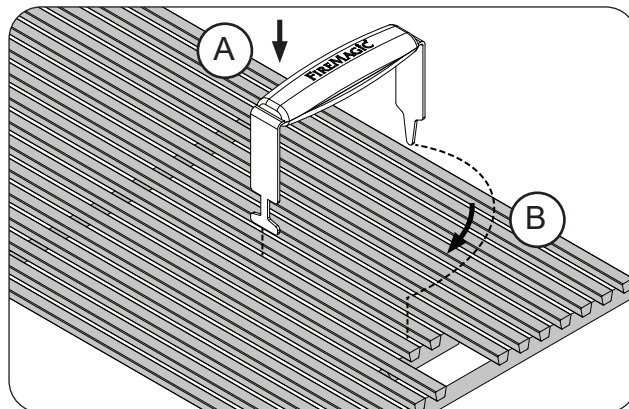
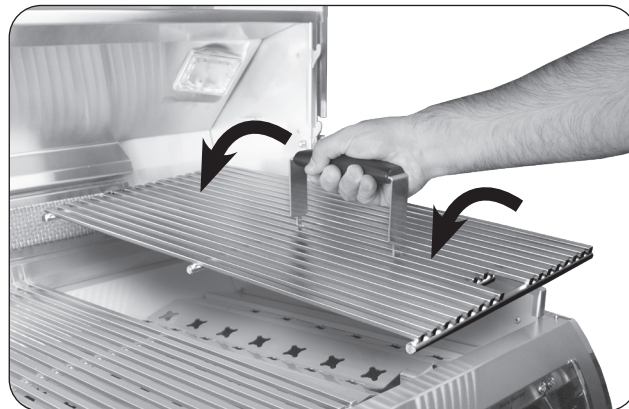

Fig. 25-1 Install cooking grids
Fig. 25-2 Install cooking grids
1. With the prongs facing downward, insert the notched-end of the lifter between two grid rods, then rotate, as shown in Fig. 25-1, A & B.
2. Insert the rear pointed-end of the lifter between the same two rods (Fig. 25-1, B) and carefully lift the cooking grid and place onto the front and rear grid rests of the grill (see Fig. 25-2). Repeat for all other cooking grids.